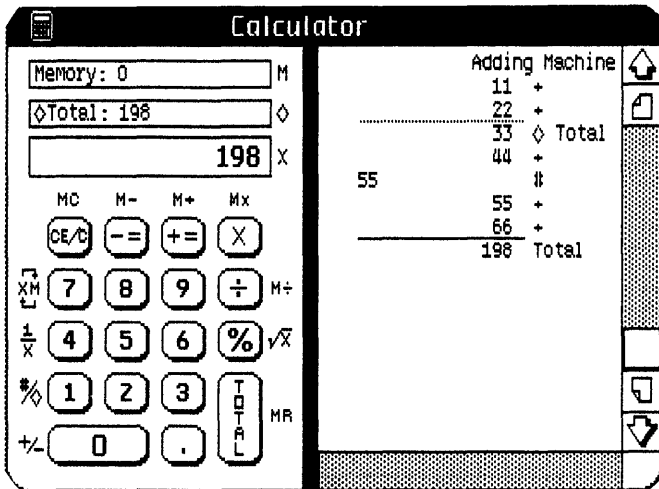

Figure 9. Adding Machine, Example 3
- 13 ► Click Total; see Figure 9 now.
In Figure 9, the final result is displayed in the X register and shown on the tape. The solid underscore indicates that a total was taken; the value is labeled Total. The calculation register is cleared and the calculator is ready to begin another problem.